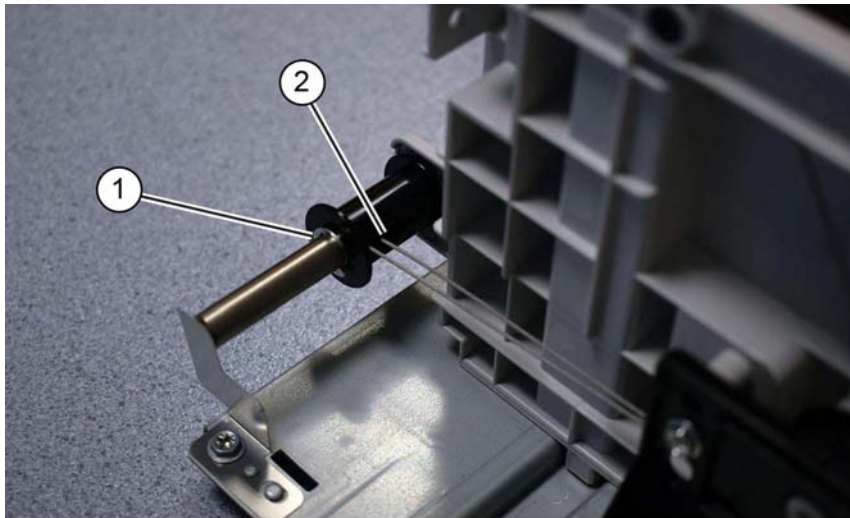

Figure 1 Front cables
4. Release the front lift cables, Figure 1:
- a. Remove the E-clip (1).
- b. Release the front lift cables (2).